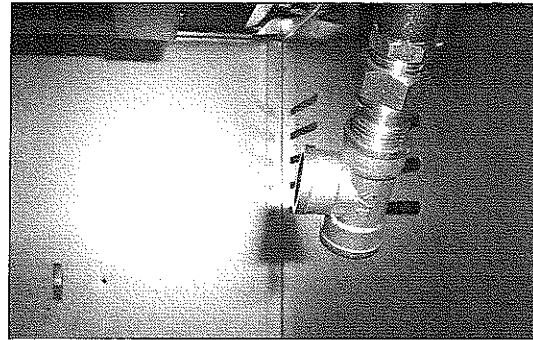

Fig 20
25. Attach the tee fitting to the manifold as shown. Tighten with wrench. (See Fig. 20)